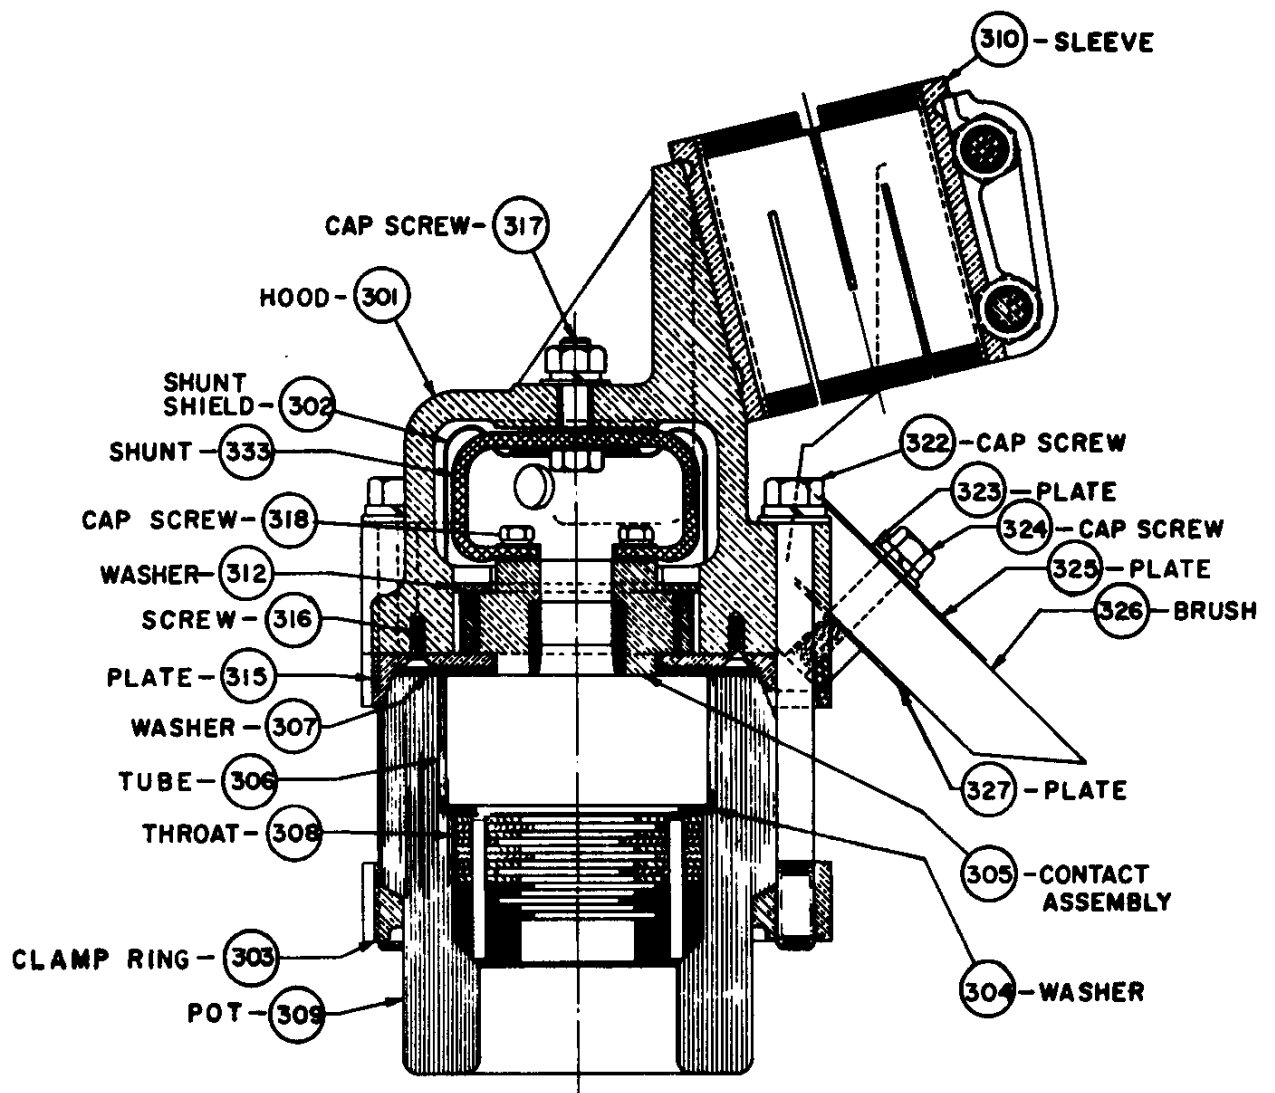

FIG.3
STATIONARY ARCING CONTACT (Ref. Fig. 3)
When installing the contact assembly (305) in the hood (301), be sure the shunt (333) is in the position shown on Fig. 3 otherwise, it is possible for the shunt shield (302) to block the vent holes in the hood (301).
MAIN STATIONARY CONTACT (Ref. Fig. 3)
When installing the new brush (326), the long side is toward the bottom as shown On Fig. 3). The short plate (327) is under the brush (326) and the long plate (325) on top.
HOOD (Ref. Fig. 3)
When installing the contact assembly (305) in the hood (301) be sure the shunt (333) is in the position shown on Fig. 3). Otherwise, it is possible for the shunt shield (302) to block the vent holes in the hood (301).
When installing the brushes (326), the long side is toward the bottom as shown on Fig. 3.
RUPTOR THROAT (Ref. Fig. 3)